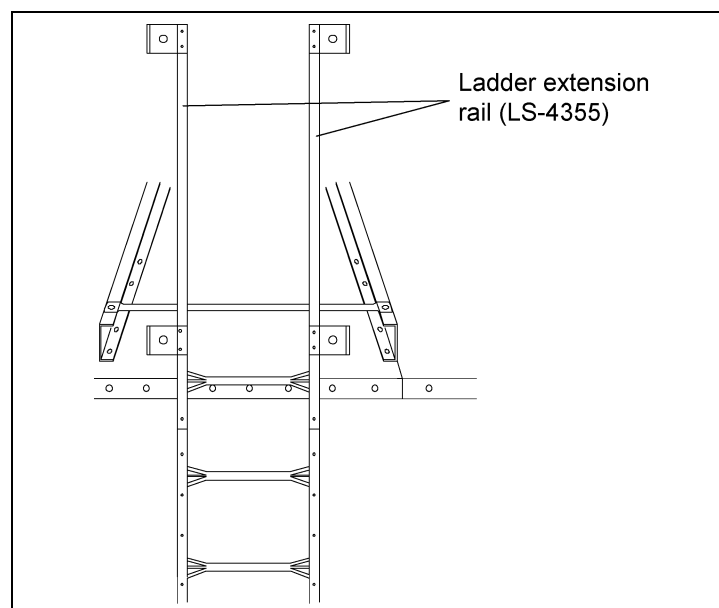

Figure 10F *Front View*
Start attaching ladder at the eave (top) of the Bulk Feed Tank. After the first ladder has been attached to the sidewall of tank, attach ladder extension rails to the ladder as shown *in Figure 10F*. Refer to Page 61 for proper ladder placement in relation to the eave of the tank. Use hex head bolts on all safety cage connections. Attach hoop brackets and adjustable safety cage brace to the top of the extension rails. Be sure to attach the adjustable brace on the **left** side of the ladder. Now attach the opposite end of the adjustable brace to the roof ladder rail. After completing this, drill two (2) 5/16" holes through the adjustable brace and use 1/4" x 1-1/2" bolts and nuts to secure the two (2) braces together.